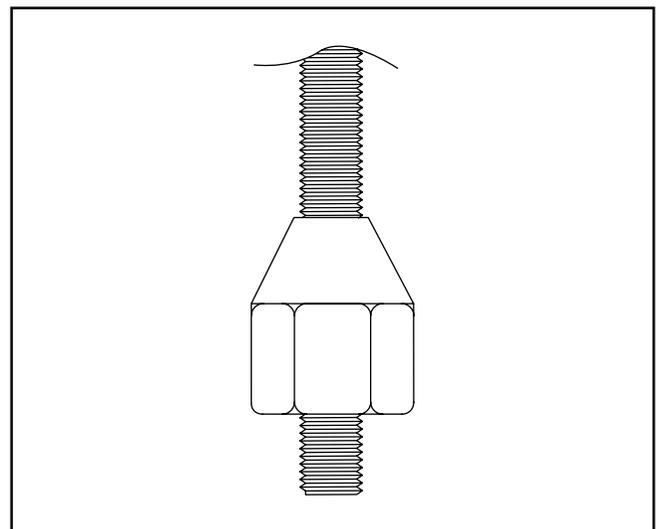

Figure 5. Nut threaded onto drawbar.
4. Thread the drawbar nut, tapered side up, onto the bottom of the drawbar. **See Figure 5.**